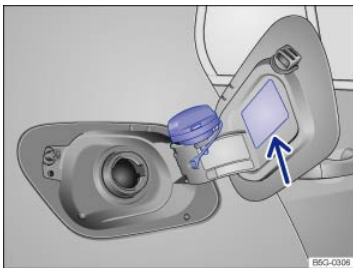

Fig. 195 Right rear side of vehicle: Fuel cap placed on the open fuel filler flap.
- Unscrew the fuel cap counterclockwise and remove. Use the slot on the fuel filler flap hinge ⇒ Fig. 195 to hold the cap while refueling.
The correct fuel grade for your vehicle ⇒ *Fuel* is listed on a sticker on the inside of the fuel filler flap ⇒ *Fig. 195* (arrow).
The correct fuel grade for your engine is shown on a sticker located on the inside of the fuel filler flap ⇒ Fig. 195.